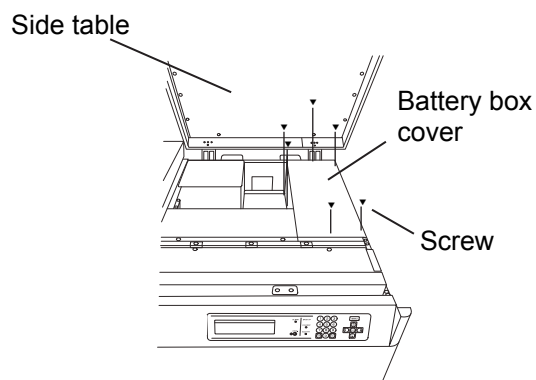

Fig. 2
2. Lift the handle of the side table to the top as shown in the fig. 2, and open the door of the side table. Remove 6 screws of the battery box cover, and remove a battery box cover.